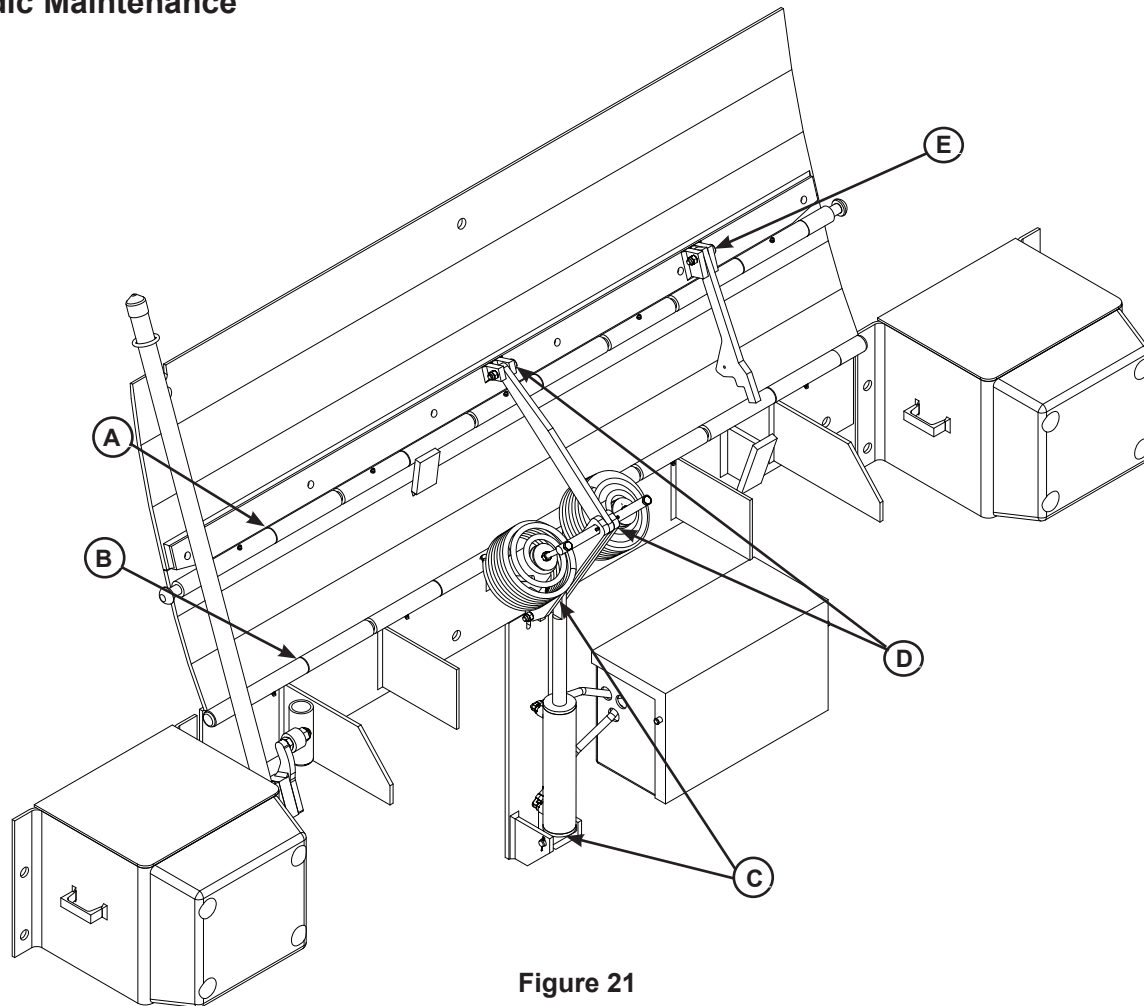

Figure 21
- Lubricate the following areas with light-weight machine oil (see Figure 21):
- Lubricate the following areas with white lithium grease (see Figure 21):